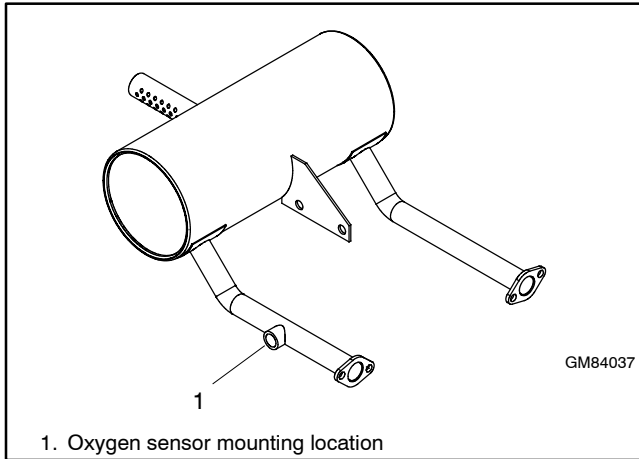

Figure 6-30 Oxygen Sensor Mounting Location on the 14RESA/RESAL Silencer
4. Remove the oxygen sensor plug from the silencer and install the oxygen sensor. See Figure 6-30 for location.